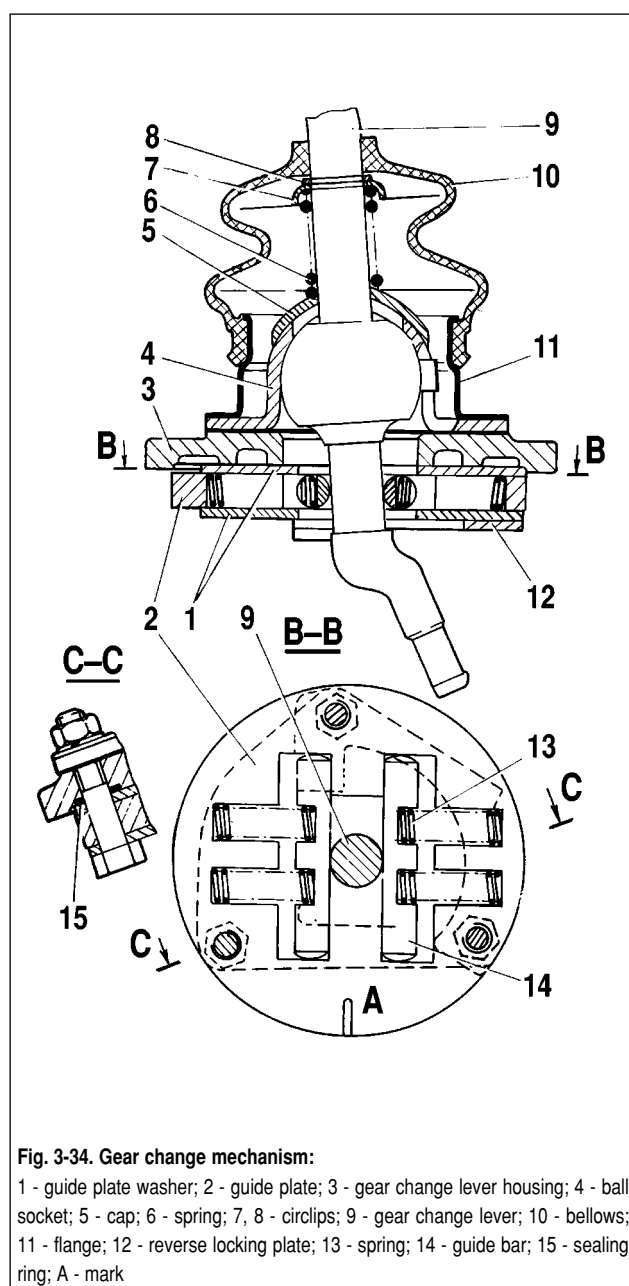

Fig. 3-34. Gear change mechanism:
- note visually the location of parts relative to risk A (fig. 3-34), made on the directing plate, so that to reassemble the parts in the same order;